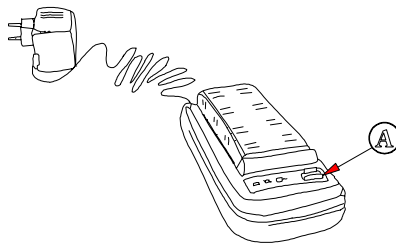

Figure 1.- CB-410 battery charger and mains adapter.
- 2) **Discharge the battery prior to carrying out the charging process** in order to eliminate any possible residual charge. In order to do so, press button A situated on the right (see figure 1). At this point, a small yellow light comes on and the process of discharging is under way. When discharging is completed, the charger automatically sets the process of charging underway.